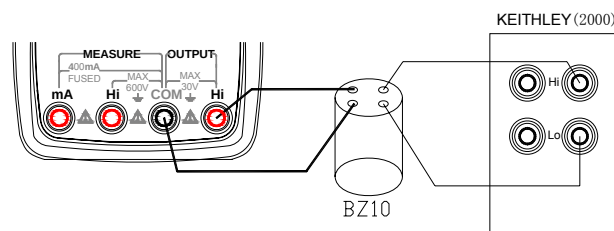

Figure 16.Ouput Dc mA Calibration
- The calibration wiring diagram is shown in Figure 16.